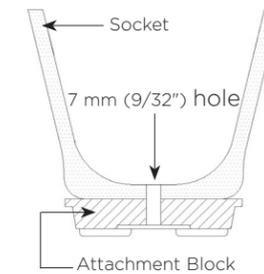
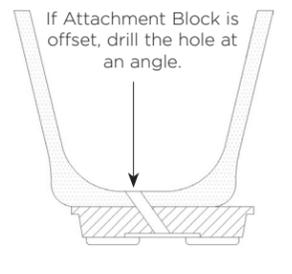

Figure 1
Figure 2
1. Drill a 7 mm (9/32") diameter hole in the center of the socket (Figure 1). If the 4-hole attachment block is offset with respect to the socket, drill the hole at an angle from the center of the Attachment Block to the center of the distal end of the socket (Figure 2).